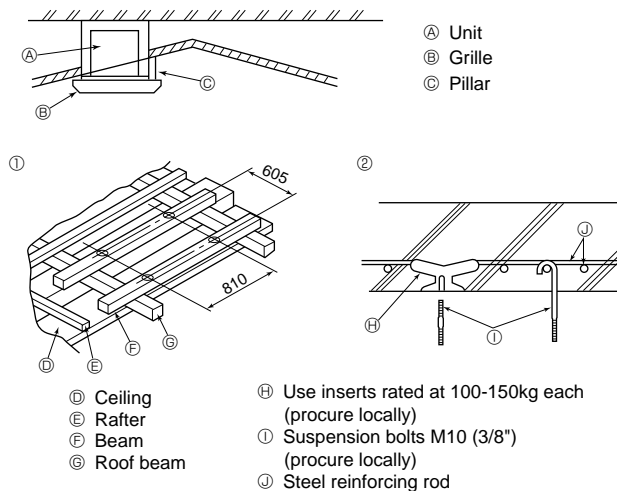

Fig. 2-4
2.4. Suspension structure (Give site of suspension strong structure) (Fig. 2-4)
① Wooden structures